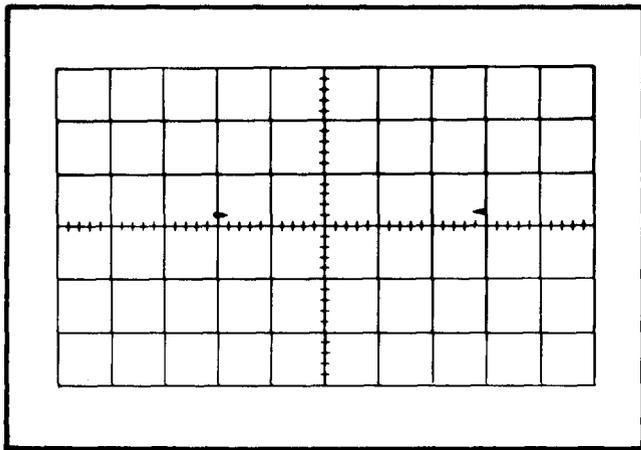

Fig. 5-24. Typical CRT display showing correct X Gain.
f. CHECK-CRT display for five divisions horizontal deflection (see Fig. 5-24).